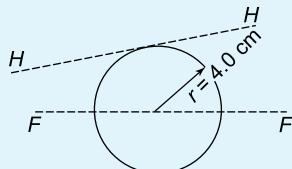

Figure 8.21
3. For the circle shown in Figure 8.21, find the second moment of area and radius of gyration about (a) axis FF and (b) axis HH